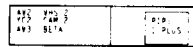

Fig. 43.
- 3 Select the desired source with  $\triangleleft$  or  $\triangleright$ . (See Fig. 43)